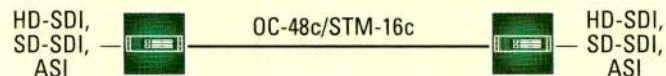

Figure 3. Venue or studio to production facility over leased circuit
- *Configuration 3.* A simple point-to-point video connection over SONET/SDH circuit. (See Figure 3.)